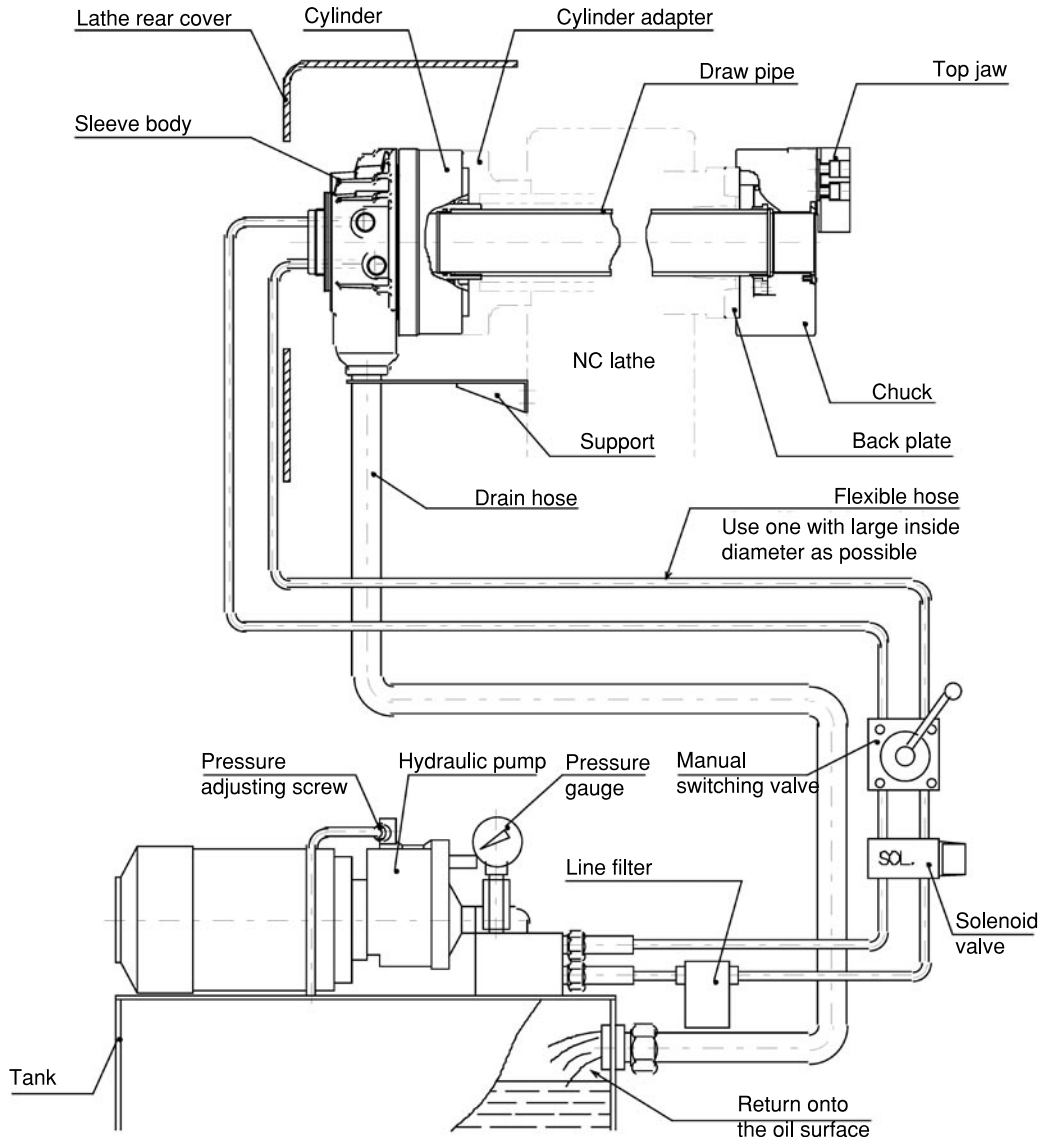

Fig. 9
- The end of the hose is physically above the oil level. (Refer to Fig.9)